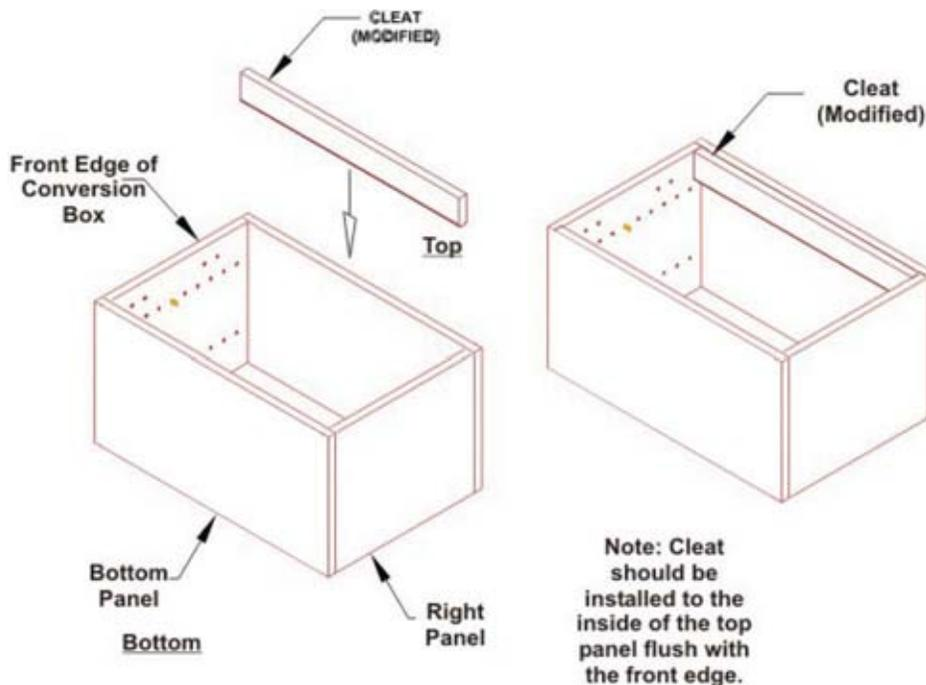

Figure 4
4. Insert the cleat into the top of your conversion box. Secure by nailing through the top of the conversion box and into the cleat using finish nails (not provided) (**Figure 4**). Make sure your nails are shorter than 1 1/2" long or they will go through your cleat and show in your conversion box.